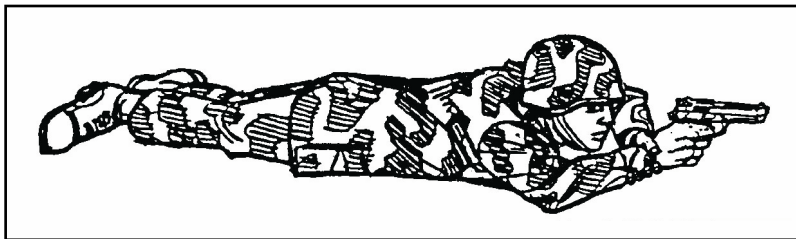

Figure 071-004-0006-6. Prone position
b. Standing-with-support (figure 071-004-0006-7). To assume this position—
- (1) Use available cover for support. For example, stand behind a tree or wall.
- (2) Stand behind a barricade with your firing side in line with the edge of the barricade.
- (3) Place the palm of your nonfiring hand at eye level on the edge of the barricade, and extend your thumb past the edge of the barricade.
- (4) Lock the elbow of your firing arm. Rest your forearm on the extended thumb of your nonfiring hand.
- (5) Move the foot on your nonfiring side forward until your toe touches the bottom of the barricade.